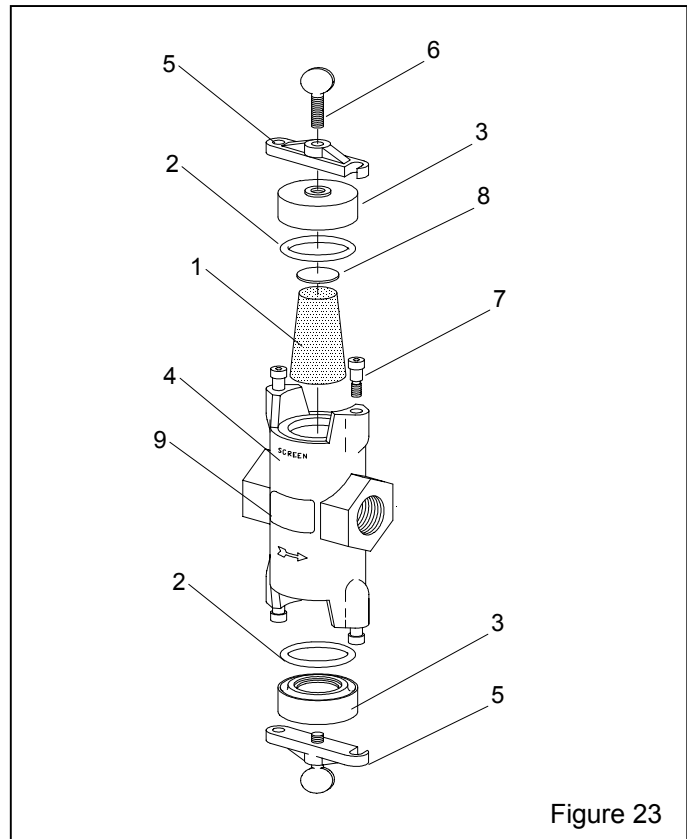

Figure 23
9.7 Abrasive Trap, Figure 23, Optional